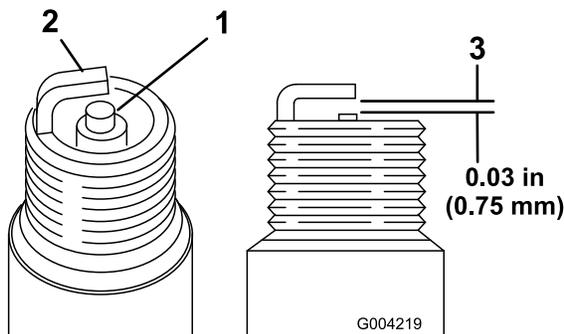

Figure 26
1. Look at the center of both spark plugs (Figure 26). If you see light brown or gray on the insulator, the engine is operating properly. A black coating on the insulator usually means the air cleaner is dirty.
2. Check the gap between the center and side electrodes (Figure 26).
3. Bend the side electrode (Figure 26) if the gap is not correct.